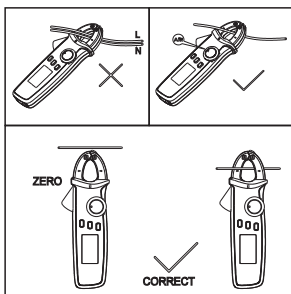

Figure 4
3. Measuring of AC/DC Current (Figure 4)